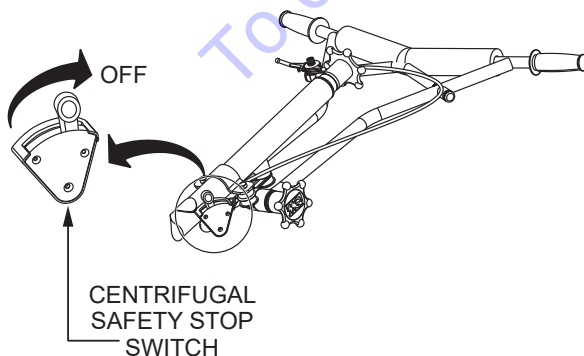

Figure 47. Centrifugal Safety Stop Switch (OFF)
3. Place the centrifugal safety stop switch (Figure 47) in the **OFF** position.